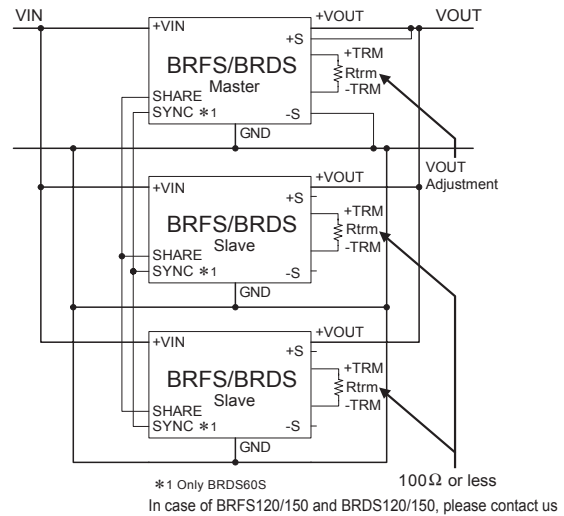

Fig.4.1 Example of wiring method in parallel operation
- In parallel operation, wiring as Fig.4.1